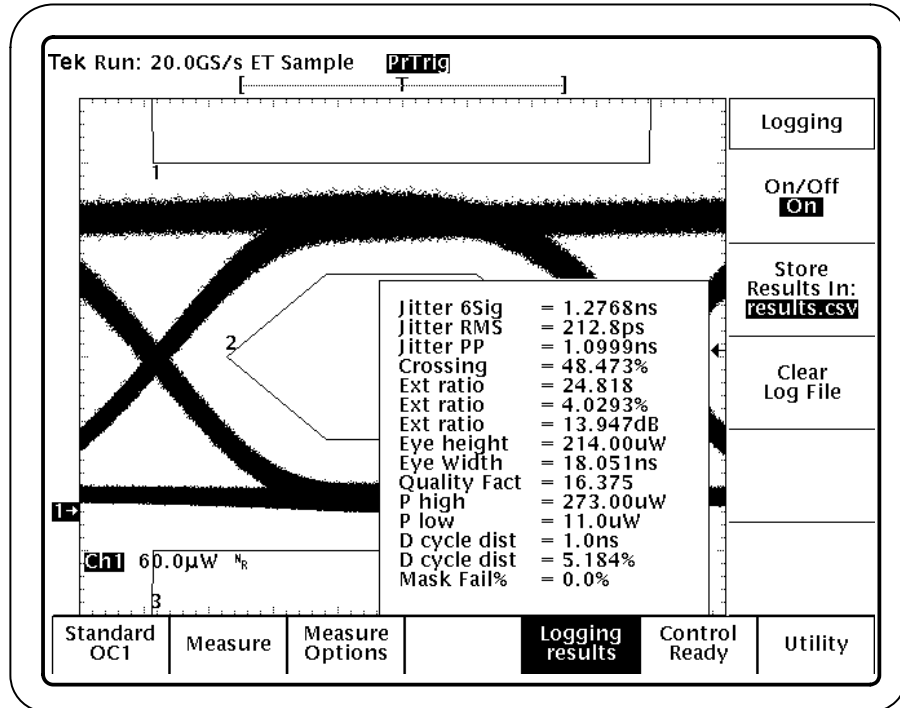

Figure 14: Logging setup menu
1. Press Logging (main) → On (side). Figure 14 shows the Logging setup menu.